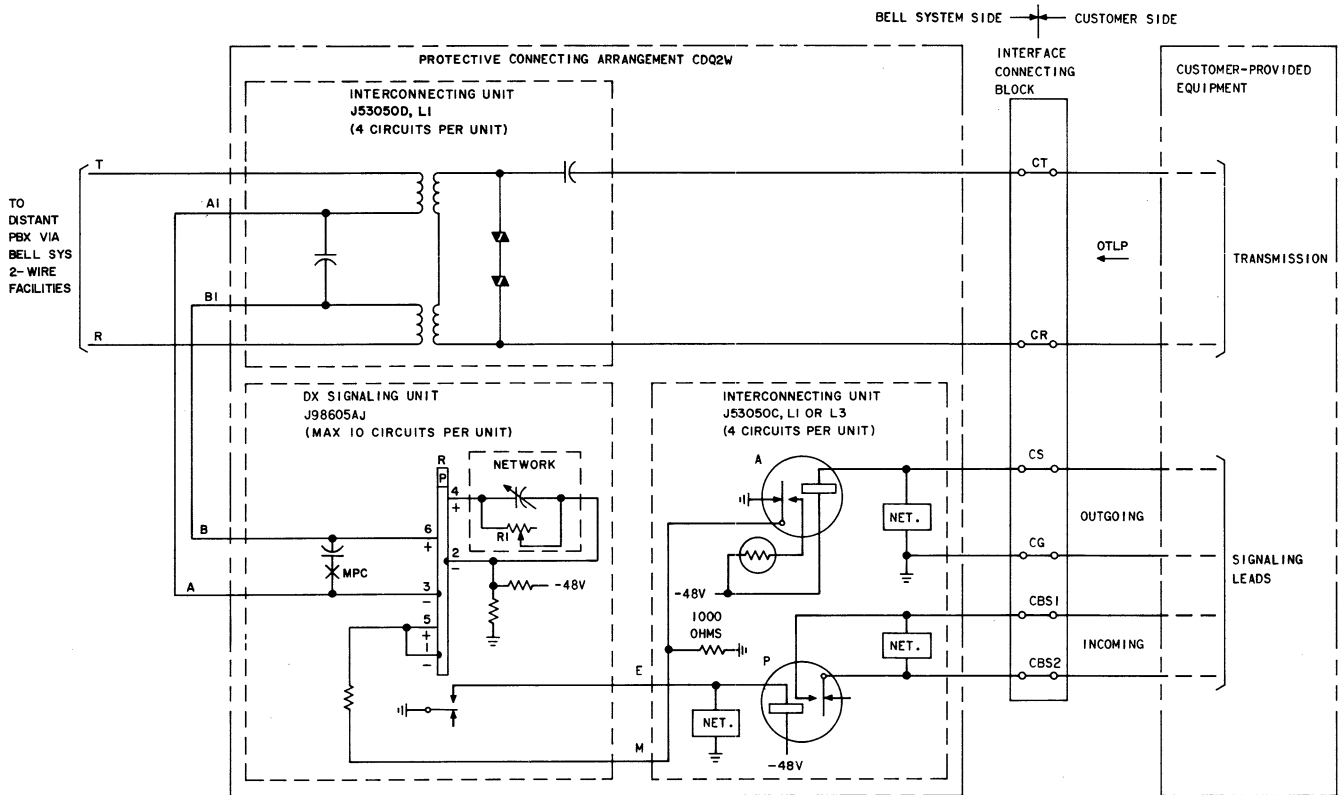
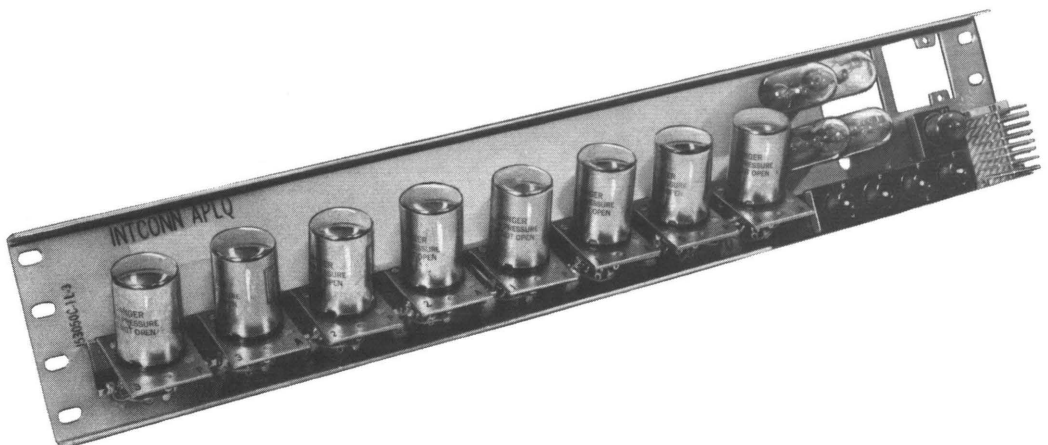

Fig. 1—Simplified Schematic—PCA CDQ2W, 2-Wire Facility
Fig. 5—J53050C, List 3 IU
1.01 This section provides identification, installation, operation, maintenance, and connecting information for Protective Connecting Arrangements (PCA) CDQ2W and CDQ2X (Fig. 1 through 4). These PCAs provide for the connection of 2-way dial repeating tie trunks between a customer provided (CP) switching system and a Bell System PBX or Centrex system. They present a 2-wire transmission interface with channel signaling provided by the telephone company between the Bell System 2- or 4-wire facilities and the customer provided equipment (CPE). PCA CDQ2W is used with CP trunks designed for a dry contact type signaling interface. PCA CDQ2X is used with CP trunks designed for an E and M type signaling interface. PCA CDQ2W, when used with Bell System 2-wire facilities, consists of an interconnecting unit (IU) J53050C, List 1 (MD) or List 3 (Fig. 5); DX signaling unit J-98605AJ; interconnecting unit J53050D, List 1 (Fig. 7); and KS-15620, List 22 rectifier. When PCA CDQ2W is used with 4-wire facilities, a 24V4C repeater shelf J98615BJ, List 2, equipped with plug-in components, is used in place of the J53050D, List 1. PCA CDQ2X utilizes the same equipment as the CDQ2W with the exception of the J53050C IU which is a List 2 (Fig. 6) instead of a List 1 (MD) or 3.
J53050C, List 1 (MD) or 3 Interconnecting Unit (Fig. 5)
3.03 *DX Signaling Unit Adjustments (J98605AJ) (Fig. 1 through 4, and 12)*